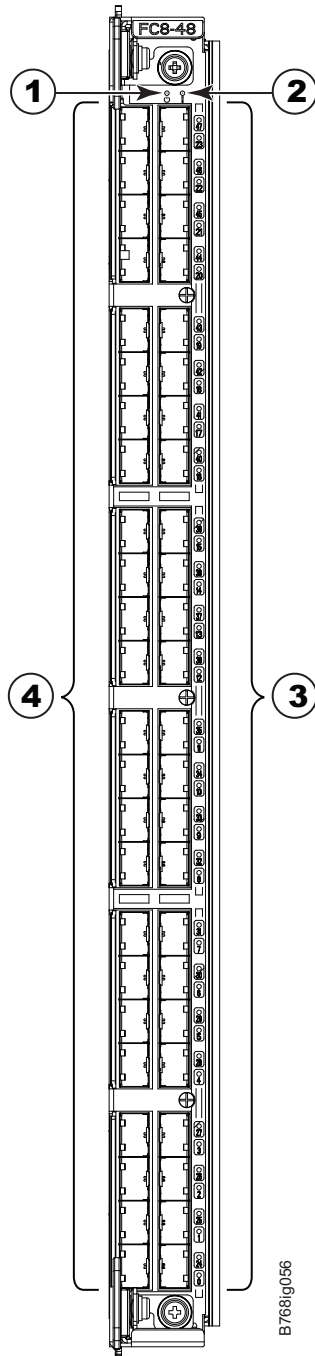

Figure 56. FC8-48 port blade
- Figure 56 on page 168 shows an FC8-48 port blade